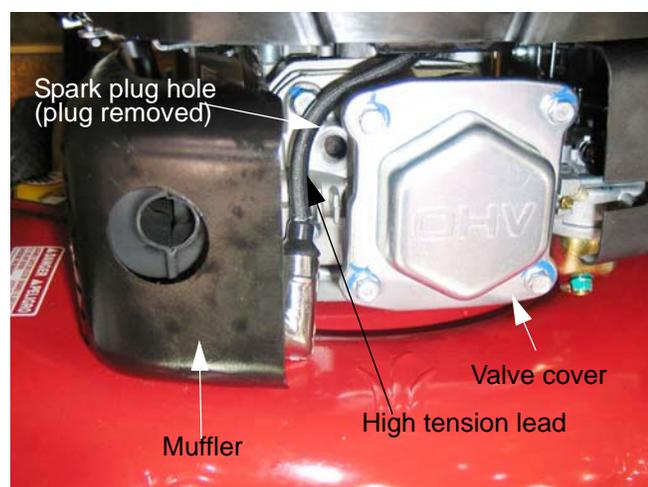

Figure 7.14
2. Remove the spark plug using a 13/16" or 21mm wrench. A flexible coupling or "wobbly" extension may help. See Figure 7.14.